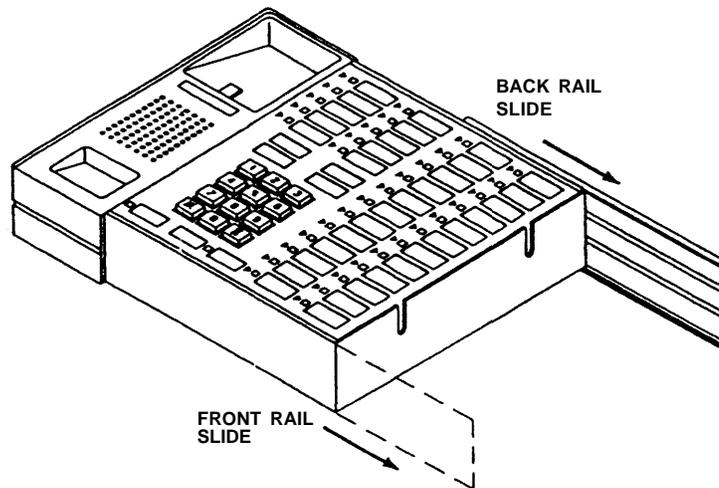

Figure 3
7. Remove back rail by sliding rail to right (Figure 3).
8. Remove front rail by sliding rail to right (Figure 3).